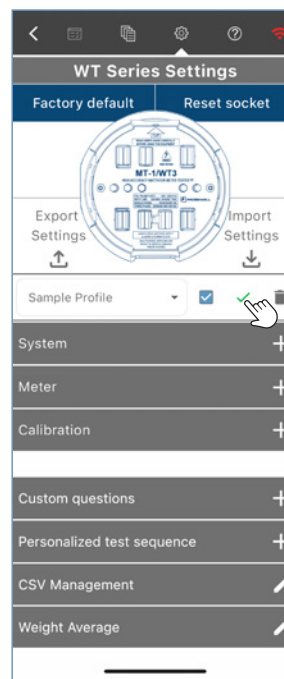

Figure 3
- Modify a profile:** To modify a profile, start by selecting the profile, make the required changes in the settings and tap the green checkmark ✓ to save the changes (Figure 3).